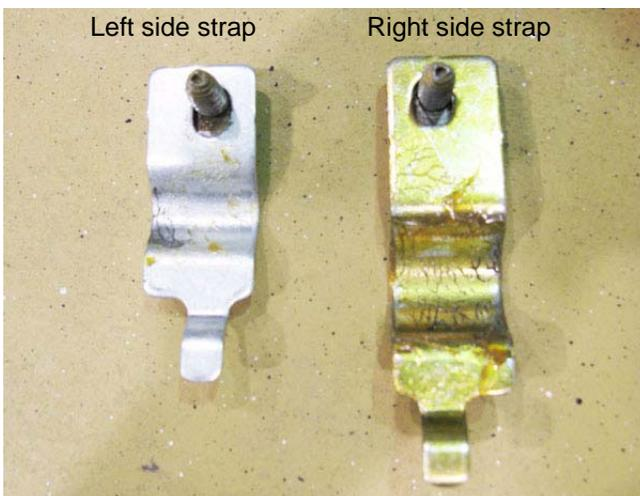

Figure 6.30
- NOTE:** The pedal shaft support straps are two different sizes. The smaller strap holds-up the left (brake pedal) end of the pedal shaft assembly. The larger strap holds-up the right (drive control pedal) end of the pedal shaft assembly. See Figure 6.30.